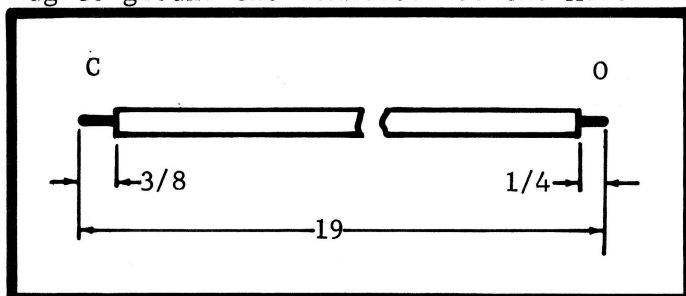

FIGURE 7. Dimensions for Cable #3 for Voltage Programing. Dimensions are in inches.
b. Prepare two cables as shown in Figures 7 and 8.